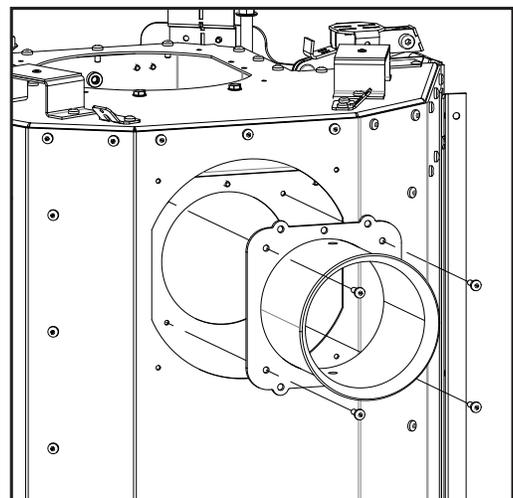

Figure 66: Exhaust Spigot Attachment
10. Attach the exhaust spigot to where the block-off plate was removed (see Figure 66).